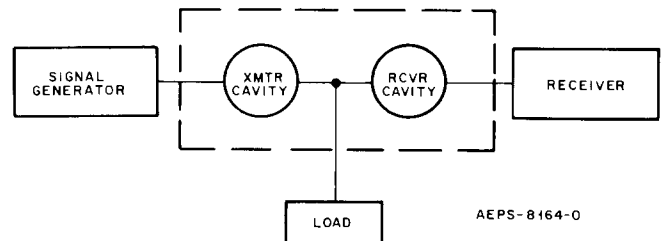

Figure 7.
Step 8. Connect the equipment as shown in Figure 7.
Step 6. Connect the equipment as shown in Figure 7.